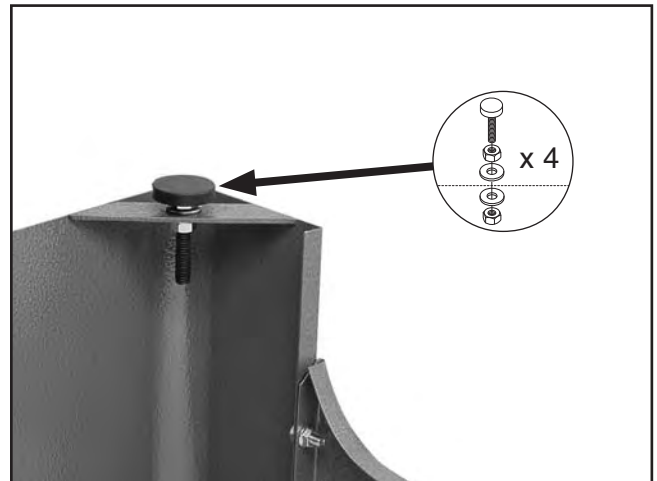

Figure 10. Stand foot installed (1 of 4).
3. Install the foot assemblies into the holes in the bottom of the stand assembly, using (2) 3/8"-16 hex nuts and (2) 10mm flat washers, as shown in **Figure 10**.